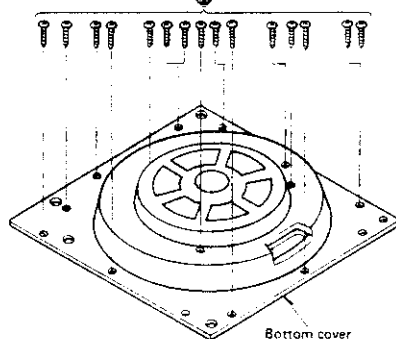

Fig. 10
3. Remove the 15 setscrews (Fig. 10 : ①) of the bottom cover.